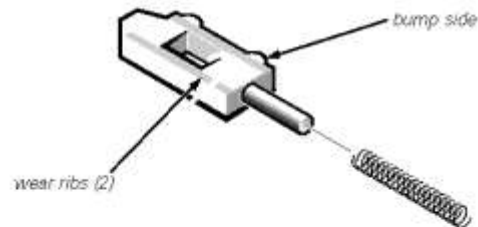

Figure 4-29. Left Slider
- Ensure that the plunger is inserted in its respective hole, that the side of the slider with the two bumps is facing the rear of the case, and that the surface with the wear ribs is facing the bottom of the case (see Figure 4-29).